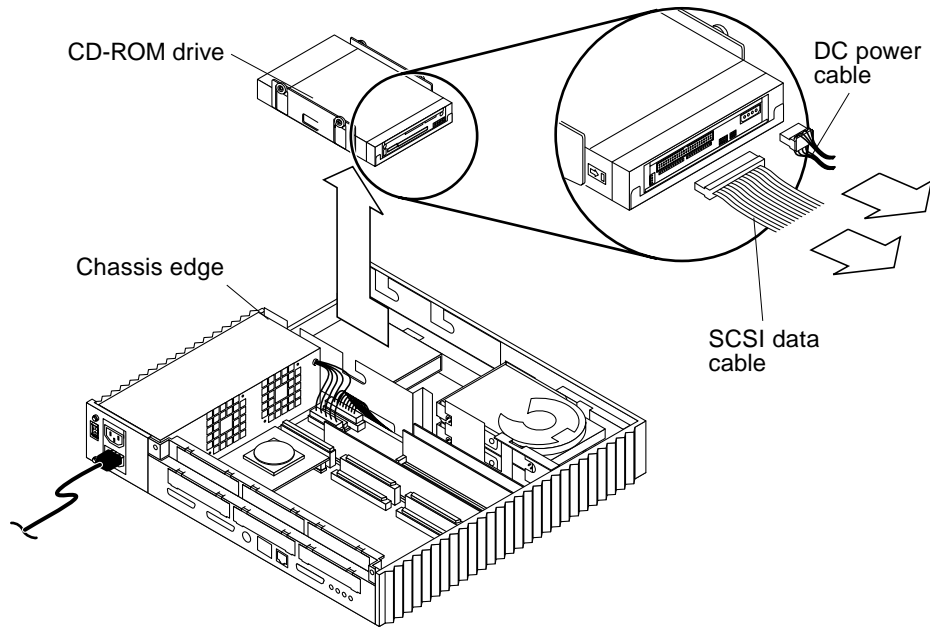

FIGURE 9-5 Removing the CD-ROM Drive
3. Remove the CD-ROM drive as follows (FIGURE 9-5):